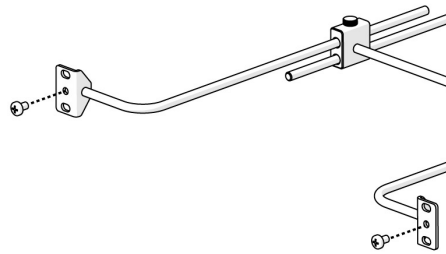

Figure 8. Rear rack mount ears
- Step 5.** Secure the rear rack mount ears to the equipment rack by tightening the 1/4 in. Phillips head screws (see Figure 8).